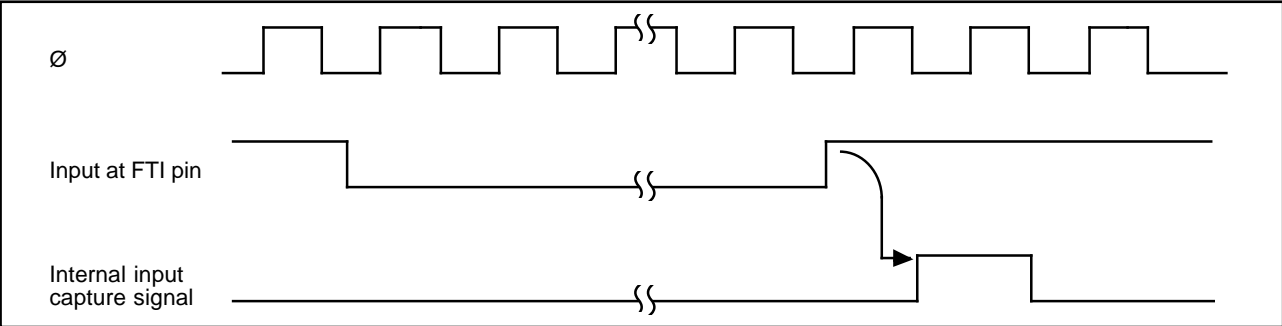

Figure 6-11. Input Capture Timing (Usual Case)
(1) Input Capture Timing: An internal input capture signal is generated from the rising or falling edge of the signal at the input capture pin FTIx (x = A, B, C, D), as selected by the corresponding IEDGx bit in TCR. Figure 6-11 shows the usual input capture timing when the rising edge is selected (IEDGx = “1”).